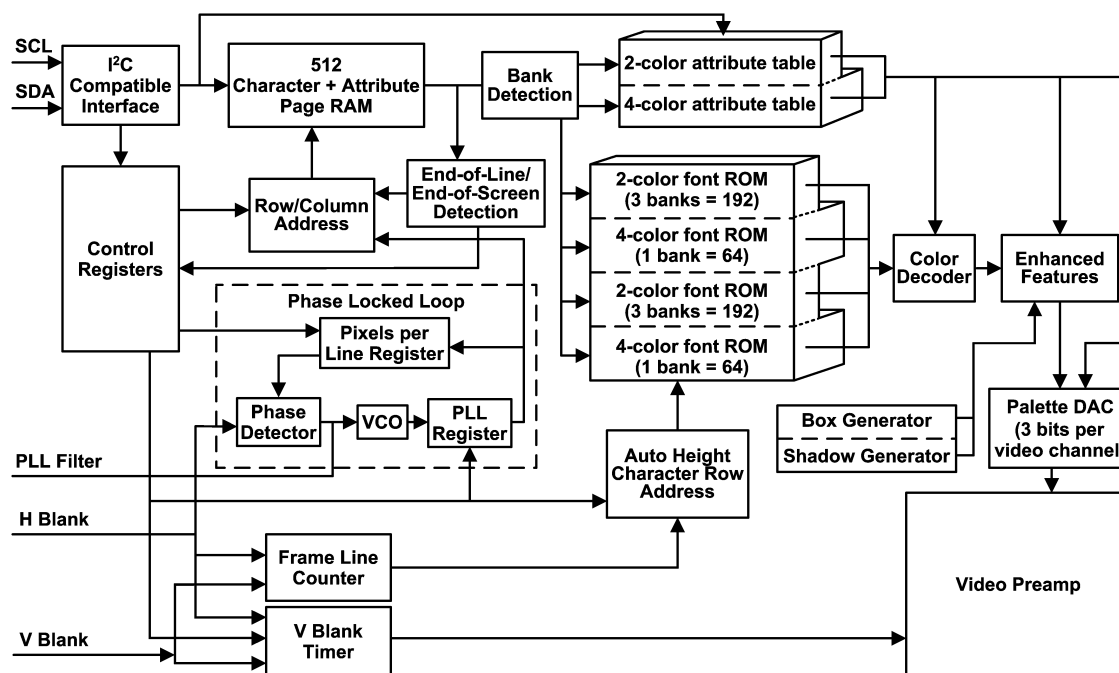

Figure 11. OSD Generator Operation Block Diagram
Figure 11 shows the block diagram of the OSD generator. OSD screens are created using any of the 512 predefined characters stored in the mask programmed ROM. The OSD image is composed of up to 512 characters stored in page RAM, where each character has a unique 8-bit address. This means only half of the 512 ROM characters can be displayed at any one time. Since a 9 bit address is needed to select from 512 ROM addresses, a bank select register is used to convert the upper 2 bits of the character code into a 3 bit bank address which is combined with the other 6 bits to produce the necessary 9 bits. Also, since the lower 6 bits can address 64 characters, this gives a bank size of 64. Therefore, the ROM consists of 8 banks of 64 characters each, where 4 of these 8 banks are displayed by loading the 4 bank address registers with the appropriate 3 bit code. This allows the programmer to switch between two different OSD images, by simply reprogramming the bank addresses.
The OSD ROM is equivalent to two 256 character ROMs of the type used in the LM1253A and LM1237. Because of the bank select method described earlier, each can be considered as a group of 3 banks (192) two-color characters followed by 1 bank (64) four-color characters. Physically, the combined ROM is then $192 \times 2 + 64 \times 4$. This is shown in Figure 11.